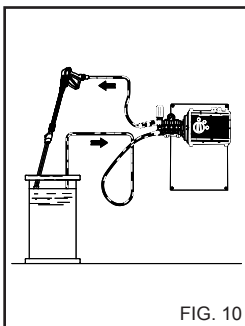

FIG. 10
**FILLING WITH ANTIFREEZE (fig. 10).**